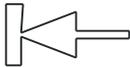

Fig.12
(12) Insert the clear card (see Fig.12)